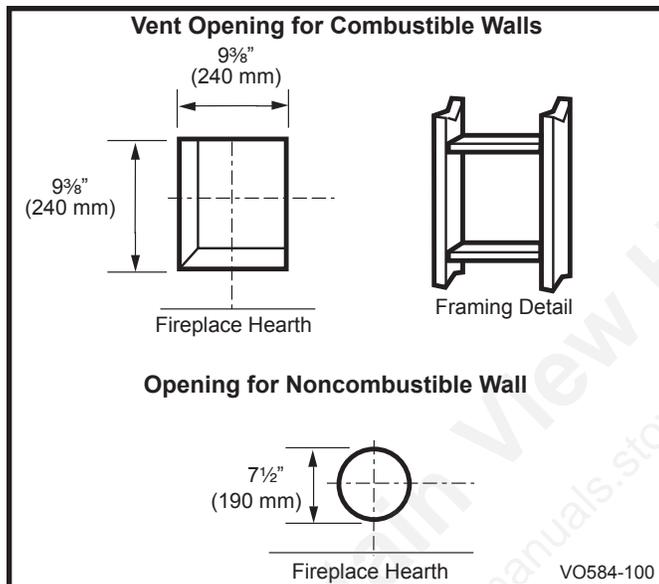

Fig. 32 Locate vent opening on wall.
Locate vent opening on the wall. It may be necessary to first position the fireplace and measure to obtain hole location. Depending on whether the wall is combustible or noncombustible, cut opening to size. (Fig. 32) (For combustible walls first frame in opening.)
Combustible Walls: Cut a 9³/₈"H x 9³/₈"W (240 mm x 240 mm) hole through the exterior wall and frame as shown. (Fig. 32)
1. Establish vent hole through the wall (Fig. 32)